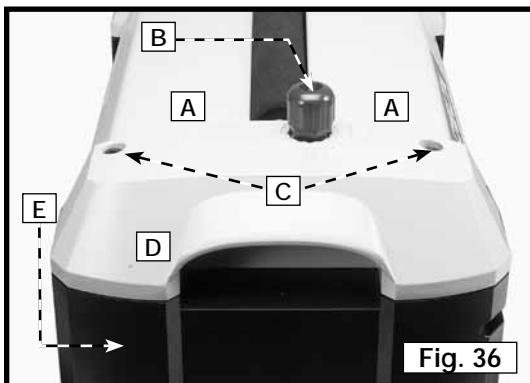

Fig. 36
1. Remove the two top covers (A) Fig. 36.
3. Remove the two 6mm screws (C) Fig. 36.
4. Lift the top left machine cover (D), and pull out the side cover (E) Fig. 36.